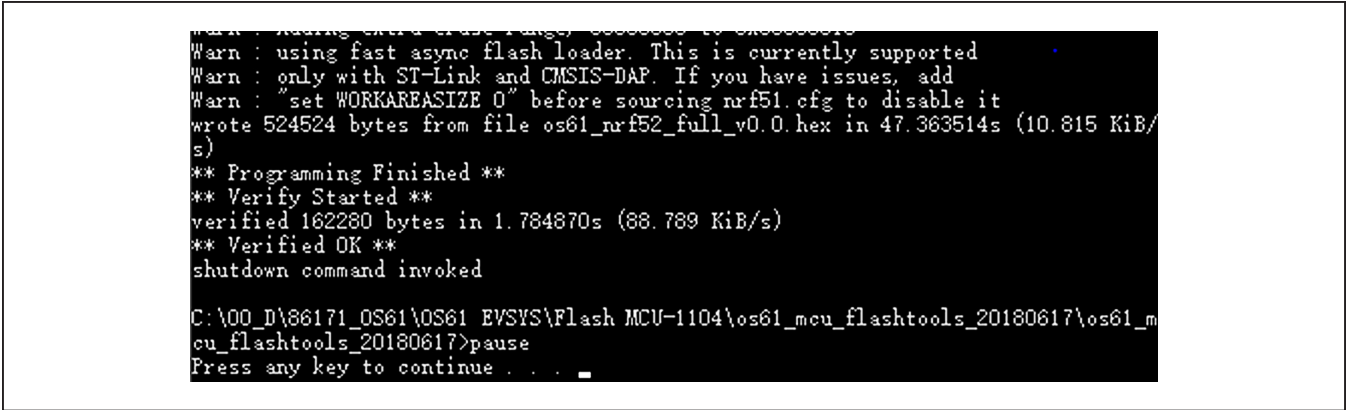

Figure 18. Command prompt display when firmware has successfully been flashed.
- 3) A **command prompt** should pop up when the .bat file is opened. Follow instructions provided in the command prompt to finish flashing the firmware. If the command prompt shows **Verified Okay**, the firmware has been successfully flashed on the MAXSENSORBLE_EVKIT_B board, as shown in Figure 18.